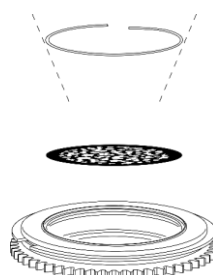

Fig. 18
- 10) Carefully insert the retainer spring with the narrow end against the gobo (see Fig. 18). To identify the narrow end, press the spring flat: the narrow end is on the inside.